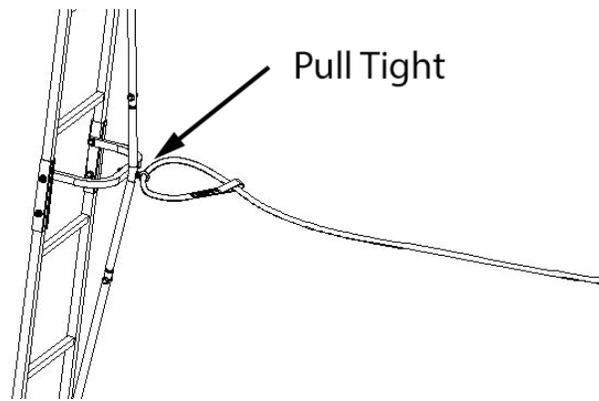

Figure 38
STEP 8: Install the stabilizing strap to the eye bolt on the ladder bridge support by looping it back thru itself and pull tight as shown in Figure 38.